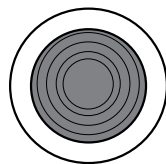

Figure 31. Pre-Heat Lamp/Pre-Heat Button
4. Press and hold the engine pre-heat button (Figure 31). Verify that the pre-heat lamp is lit. Continue pressing button until pre-heat cycle is complete. After completion of the pre-heating cycle, the light will go OFF and the engine will start up automatically.